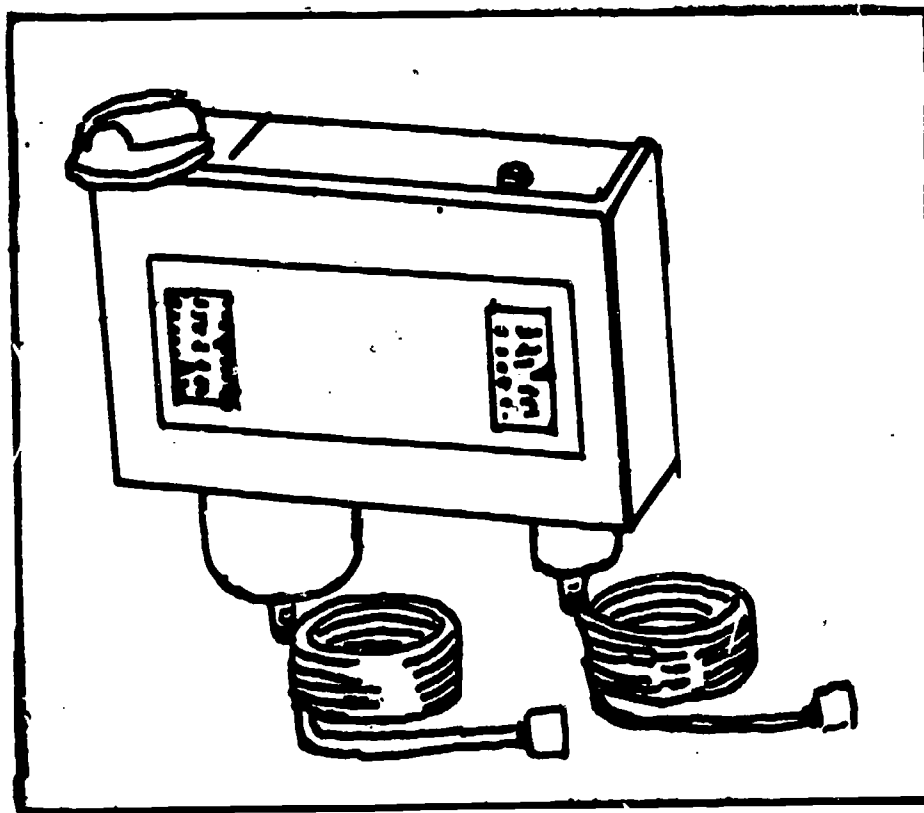

Fig 2-27. Dual pressure control.
- (2) High-pressure cutout. The high-pressure cutout is a safety control which is used to protect personnel and equipment from abnormally high pressures which could cause injury or damage. This control is connected into the high side of the system through a small diameter tube or it can be connected directly to the cylinder head. A bellows is attached to a plunger in such a way that any excessive head pressure will expand the bellows, pushing the plunger against the switch and shutting down the motor. A high-pressure cutout usually will have to be reset manually. This is accomplished by pushing a reset button located on the control once the high pressure has been relieved.
- (3) Dual-pressure control (fig 2-27). A dual-pressure control is a low-pressure cutout and a high-pressure cutout mounted in the same enclosure. Both controls act as they would if they were mounted separately but they operate only one set of contacts. If the compressor motor was shut down because of an excessively high pressure, the control would have to be reset manually. If the low-pressure control was controlling the compressor operation, it would cut out the compressor at the predetermined low pressure and cut-in would automatically occur at its predetermined higher pressure.